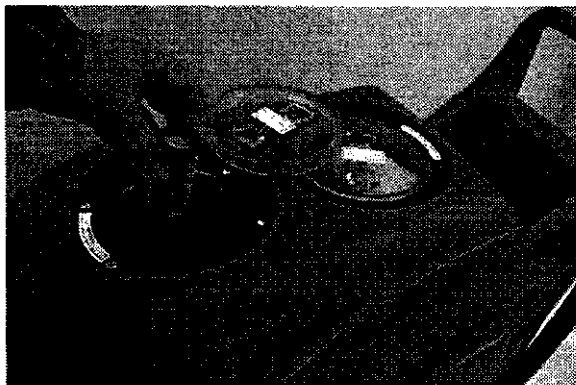

FIG. 14
4. Remove and rinse solution tank screen (Figure 14).